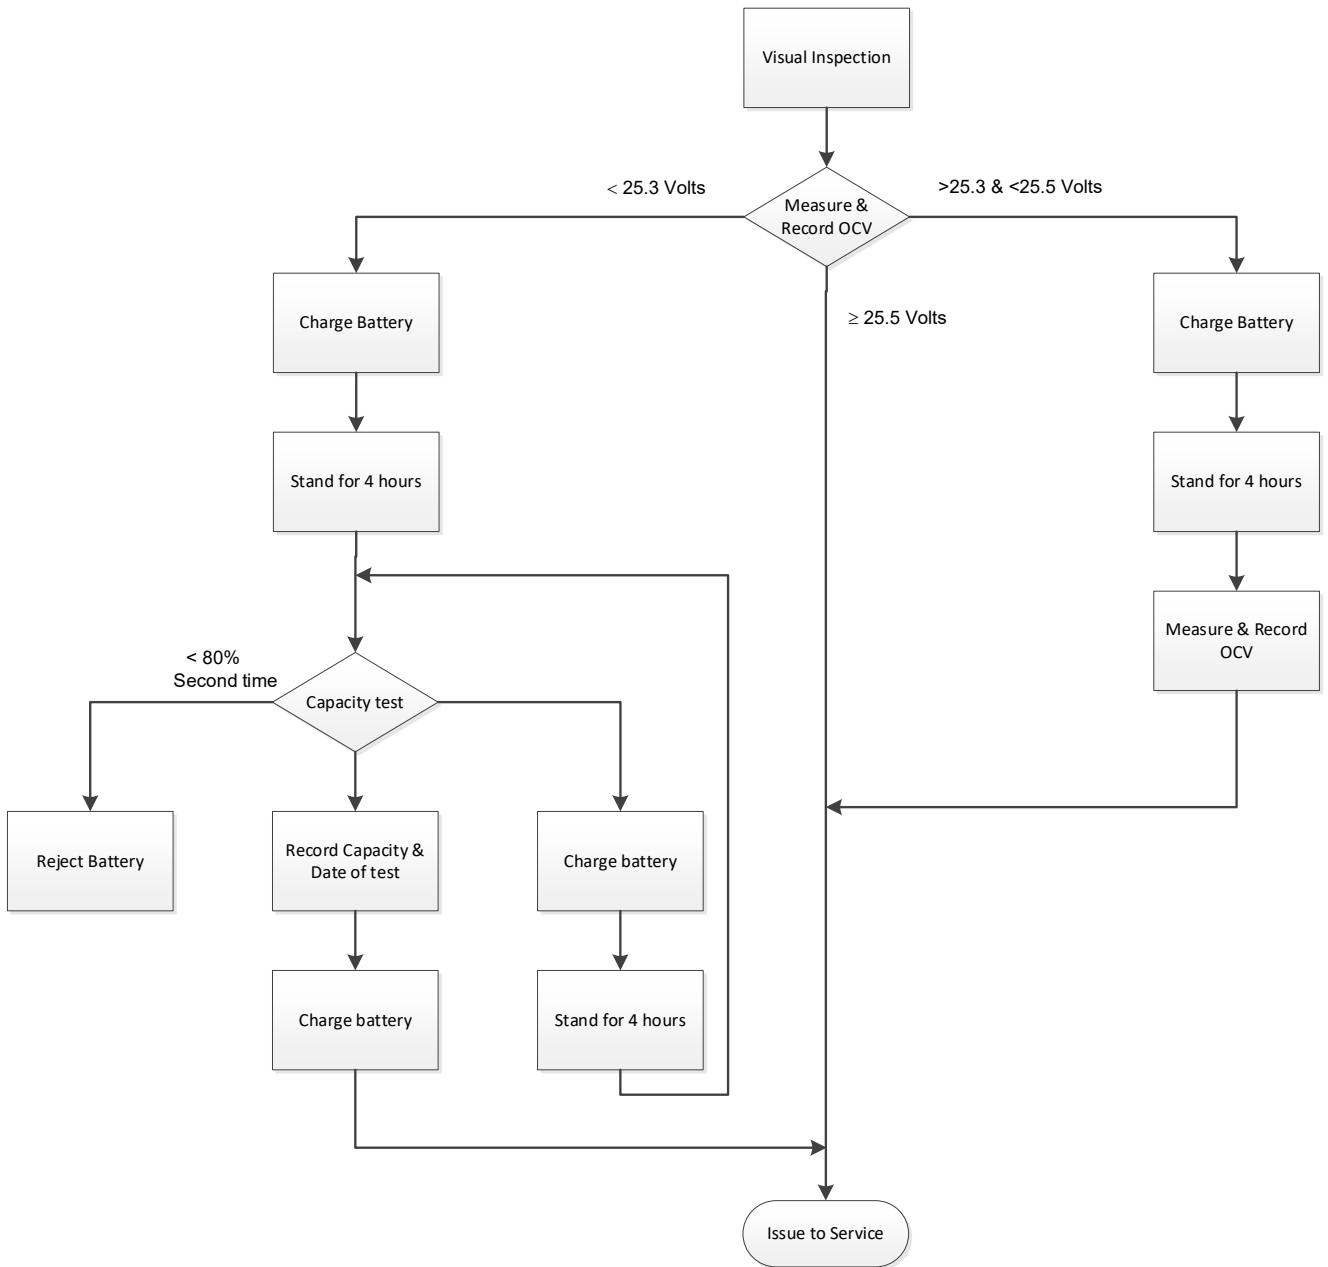

Figure 7 – Battery Commissioning Flowchart
The open circuit voltage of the battery prior to service can be used as an approximate guide to the state of charge of the battery. Figure 7 shows the relationship between open-circuit voltage and the state of charge of a new battery after 24 hours or more after recharge.
- F. Commissioning Procedure (*Refer to Figure 7 – Battery commissioning flowchart*)